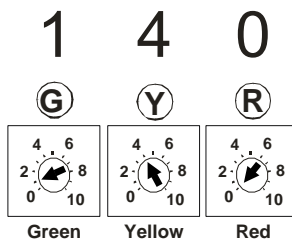

FIGURE 4
1. Start with the base setting in Figure 4 if a full exhaust system is installed. If a full exhaust system is installed in combination with a Cobra PowrFlo™ Air Intake System the same setting will be adequate. Refer to Step 2 if the stock exhaust is installed or a slip-on muffler is being used to determine the proper pot settings. Adjust and test only ONE adjustment pot at a time until you are happy with the result.